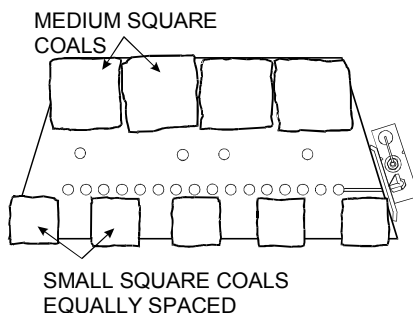

Figure 33
1. Start by placing the first layer of coals (small square and medium square) as shown in **Figure 33** ensuring that no gas ports or the cross lighting slot are obstructed.